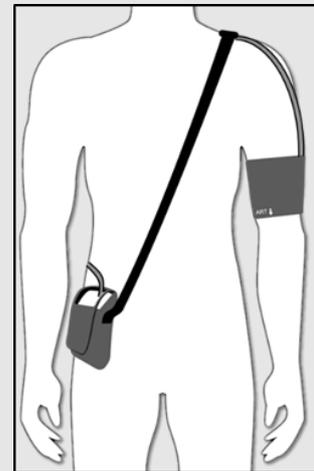

Fig. 1: Mobil-O-Graph® with shoulder strap
- Ensure the correct positioning of the shoulder strap/waist belt and cuff tube, also see Fig. 1.
- The tube connection on the cuff must face upwards, see Fig. 1.